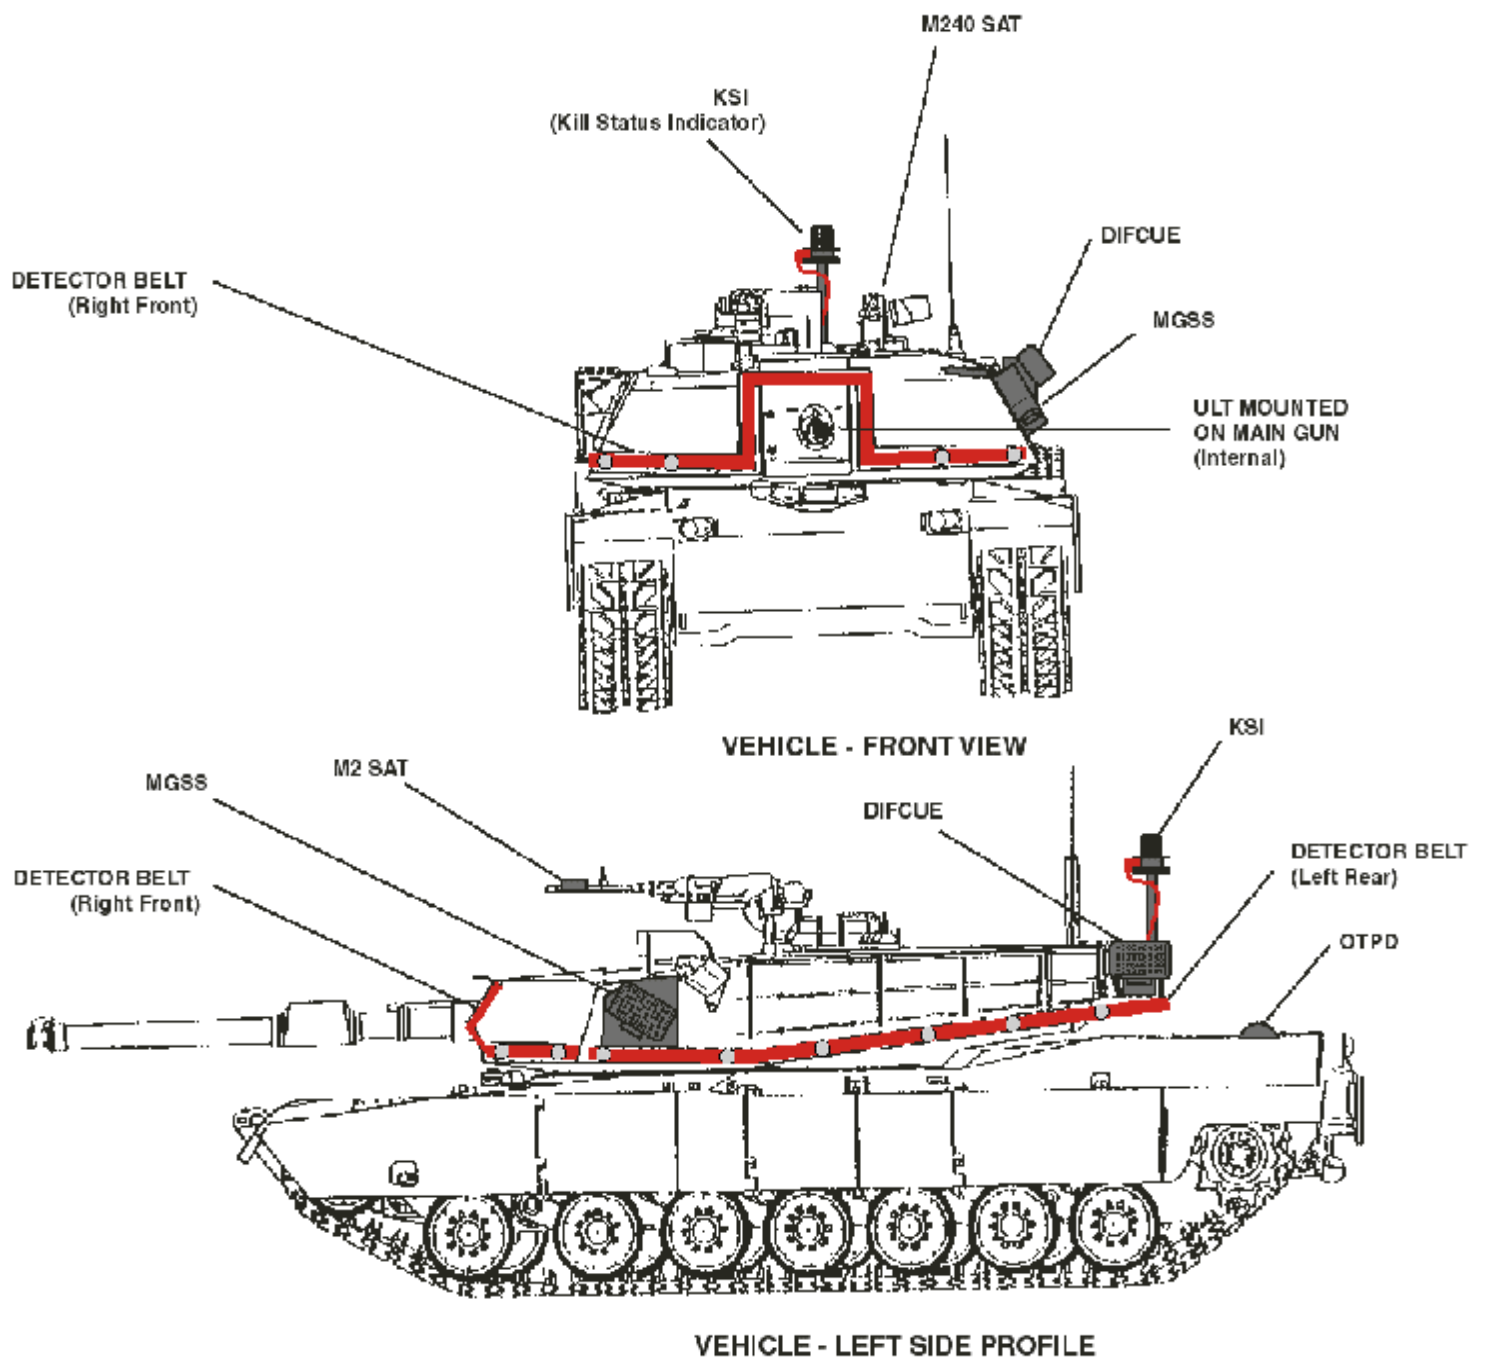

Figure 1-1. M1A1/M1A2 Abrams.
1.11.2 Principles of Operation. All weapons on the M1A1/M1A2 Abrams (Figure 1-1) are equipped with laser transmitters that are fired using normal weapon operating procedures. The turret has detector belts attached that sense opposing fire. A Control Unit (CU) mounted inside displays the extent of opposing fire and its effect. The Kill Status Indicator (KSI) is activated by the CU when incoming fire is detected.